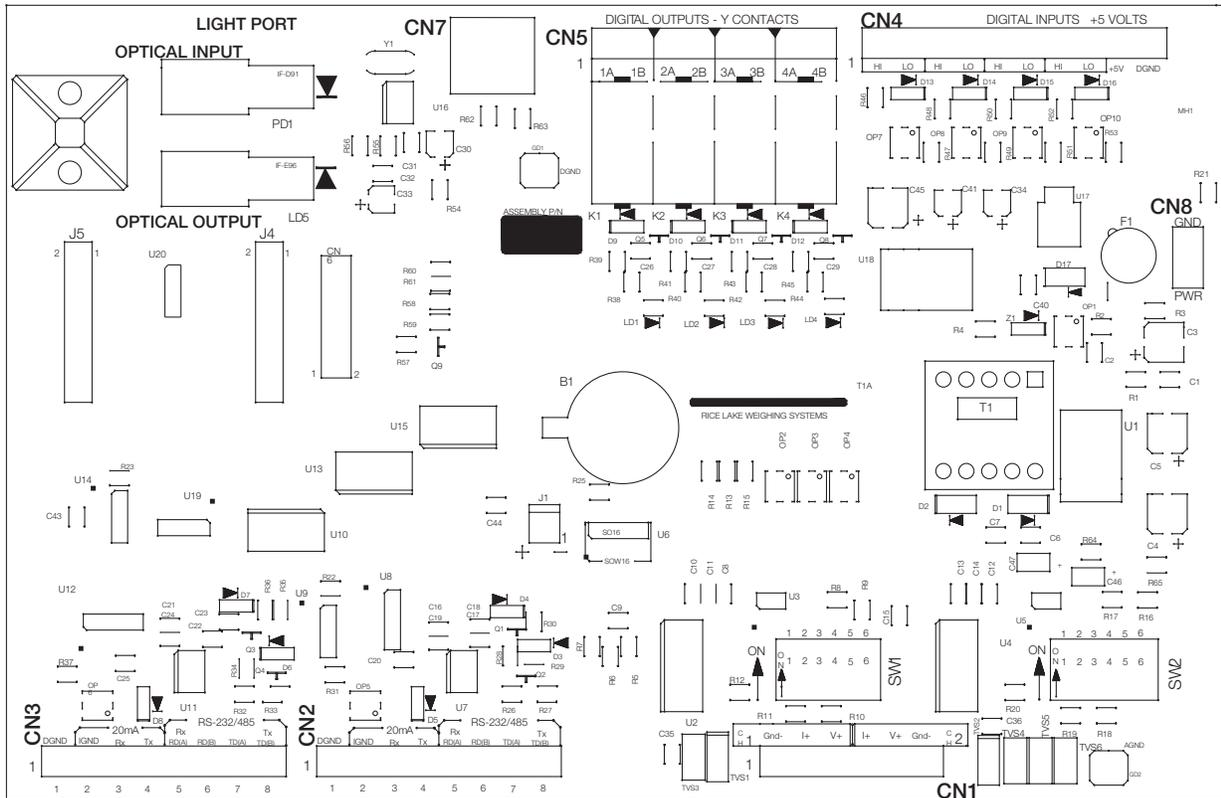

Figure 8-1. I/O Module Board
The following section describes the wiring of various ports of the 320IS . Table 8-1 below lists the connectors of the main board of the 320IS . See Figure 8-1 for port locations.
The 320IS is equipped with duplex fiber optic ports for communicating with other devices located in the safe or hazardous area. It provides electrical isolation and eliminates the use of I/O barriers commonly used in intrinsically safe systems. The fiber optic wires are plastic; no polishing or further preparation is required. See Figure 8-1 on page 54 for the location of the fiber optic ports on the 320IS main board.
4. Secure duplex fiber optic cable to wire tie mounting button located on I/O Module circuit board (see Figure 8-1 on page 54) using wire ties included in parts kit.
The 320IS uses two 16-bit isolated analog output channels with 4-20mA and voltage (0-5V/±5V/0-10V/±10V) outputs supplied from a DC/DC converter. The output voltage ranges are DIP-switch selectable (see Figure 8-1 on page 54). Analog output configuration is done via setup mode in the indicator used with the 320IS (see the applicable indicator installation manual).
The analog output circuitry consists of two identical channels that can be assigned to gross or net weight values. The analog outputs can be configured to operate as either current or voltage outputs. The voltage output range is selected by configuring DIP switches SW1 (1-6) for channel 1 and SW2 (1-6) for channel 2 (see Figure 8-1 on page 54).
The analog output port is powered by an isolated DC-DC converter. The outputs available on connector CN1 are listed in Table 8-8. See Figure 8-1 on page 54 for the location of CN1 and DIP switches.
Digital inputs are available on connector CN4 (see Figure 8-1 on page 54). All inputs are individually isolated via optocouplers. Table 8-9 outlines the pin connections for CN4.